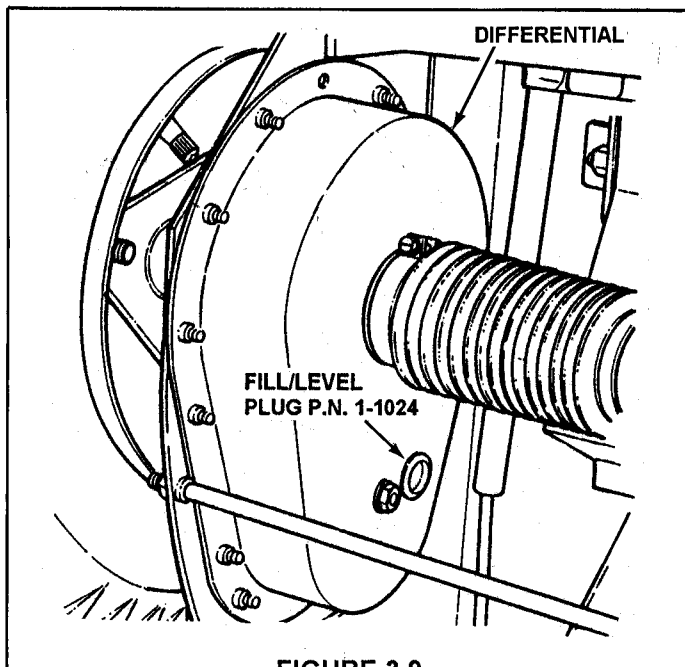

FIGURE 3.9
- To check lubricant, remove fill/level plug and visually inspect for lubricant on the internal parts of the differential. If no lubricant is visible on the internal parts of the differential, add "OO" grease as needed. See Figure 3.9.